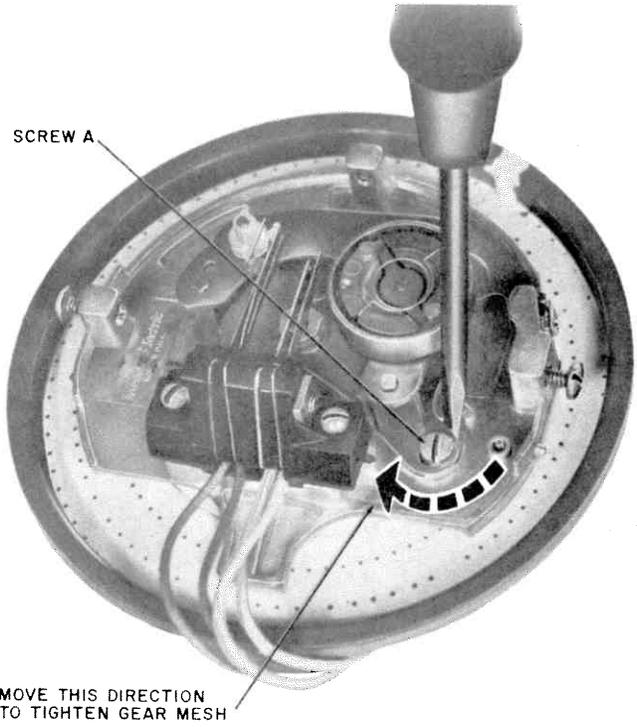

Fig. 27 — Using Screwdriver to Tighten Gear Mesh
- (1) Loosen screw A (Fig. 27) just enough to allow the elongated slot in the gear train assembly to be moved.
- (2) To tighten gear mesh, place screwdriver blade between raised detail on frame and gear train assembly (Fig. 27). Twist blade enough to slightly move the assembly. Test dial each time the assembly is moved using methods described in steps 4 through 7 in 3.32.